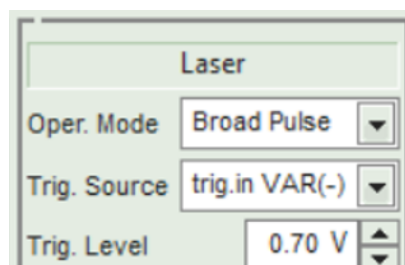

Figure 18: Additional control elements for external triggering in both narrow and broad pulsed mode
- The option **trig.in VAR(-)** will trigger upon the falling edge of an electrical pulse, while **trig.in VAR(+)** does the same on the rising edge of such a signal. Both of these options will also spawn an additional spin edit box called **Trig. Level**, where the threshold of the trigger signal can be set in V between -1 V to +1 V, see Fig. 18.